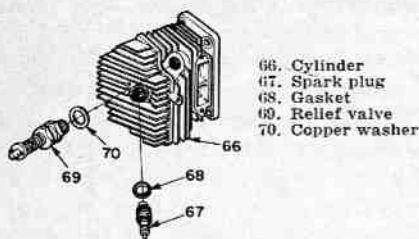

Fig. HL86A—XL-903 and XL-904 models are equipped with a compression relief valve (69).
Fig. HL86—Exploded view of typical engine assembly. Some models are not equipped with automatic chain oiler pump assembly (items 85 through 93). Note that to remove the guide bar studs (83), the stud retainers (84) must be unscrewed from crankcase and tank assembly (74); do not attempt to unscrew the studs. Refer to Fig. HL86A for XL-903 and XL-904 models with compression relief valve. Fig. HL89 shows later type crankcase with removable fuel tank and with sawdust shield used in place of gasket (85).
**COMPRESSION RELIEF VALVE.** Models XL-903, XL-903E, XL-903EAM and XL-904 are equipped with a compression relief (decompression) valve. The poppet type relief valve is mounted in a port adjacent to exhaust port as shown in Fig. HL86A. The valve is opened as throttle lock plunger is depressed to lock position. If valve fails to close when throttle lock plunger is released, either remove valve and clean using a carbon sol-